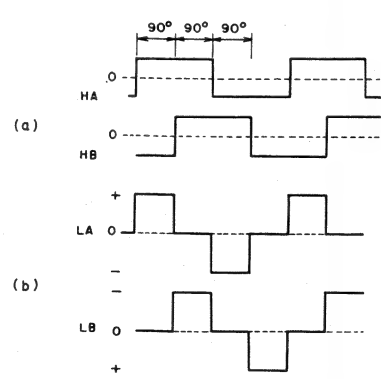

Fig. 10-1 Drive circuit waveforms
2. When S1 is turned on, 29V is applied to pin ⑦ of motor drive IC PA2008 (IC2) and the Hall element.
4. This voltage is applied to the position signal combination circuit of PA2008, and the waveform is shaped as shown in Fig. 10-1 (a). The signals are further combined to produce a staircase signal such as that shown in Fig. 10-1 (b).